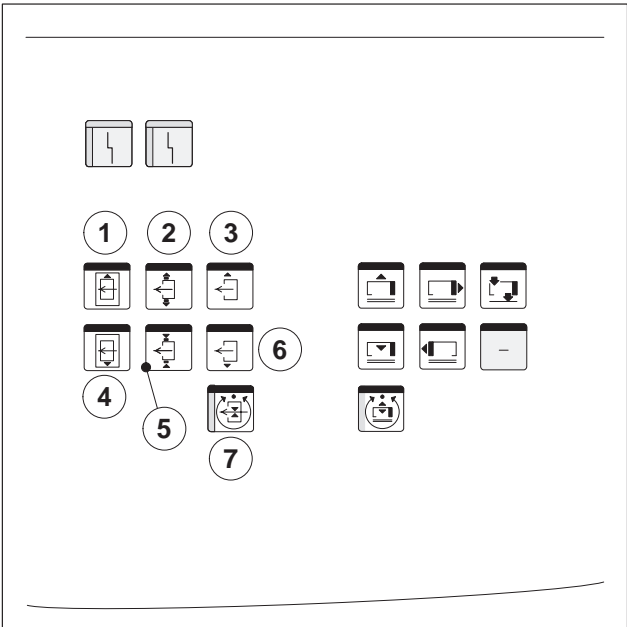

Fig. 7 Feeder control panel
11. Use the *Align pile* buttons (Fig. 7/3 and 6) to align the main pile laterally to the auxiliary pile.